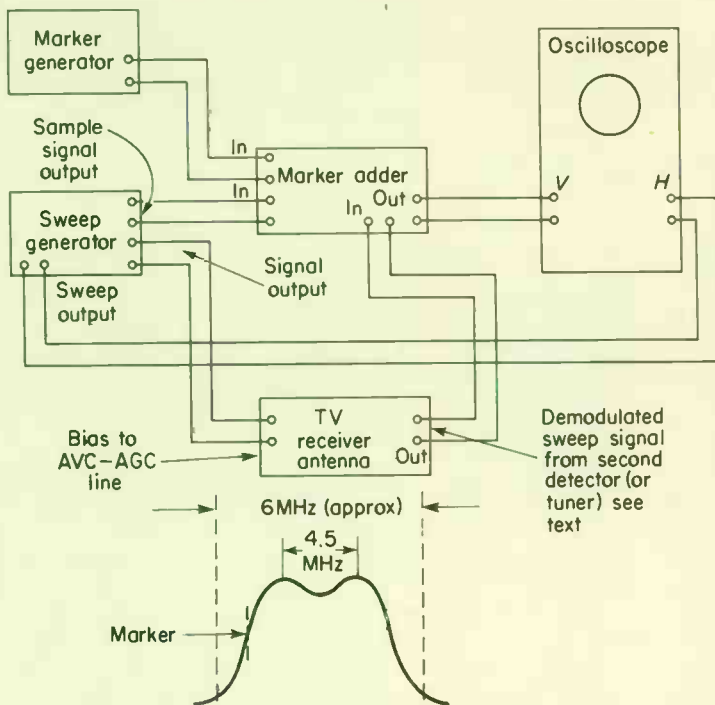

Fig. 13-2. Tuner alignment with marked adder.
1. Connect the equipment as shown in Fig. 13-2 for marker adder alignment, or as shown in Fig. 13-3 for direct-signal injection.
7. Adjust the sweep and marker generators to the appropriate channel frequency. Set sweep width to at least 10 MHz. Adjust the oscilloscope horizontal and vertical gain controls as necessary for a trace similar to that of Fig. 13-2 or 13-3.